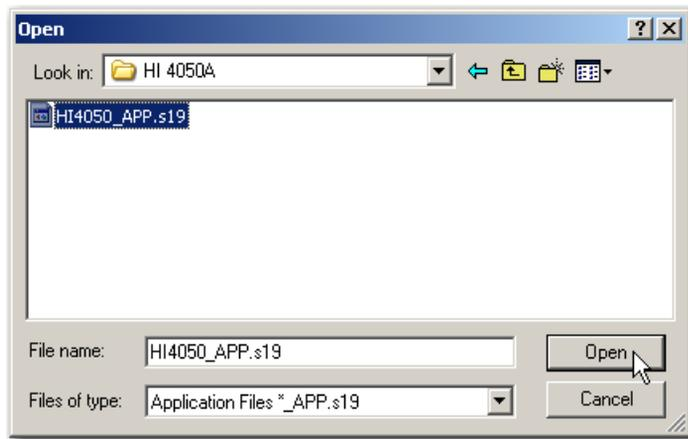

FIG. 45 OPENING UPDATE FILE
- Click on Browse to find the update file you just downloaded. The Open file dialog box appears. (See Fig. 45)